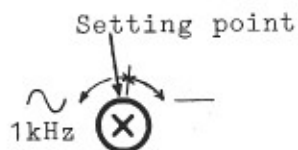

Figure-1
- Set the VR1 as shown in Figure-1.